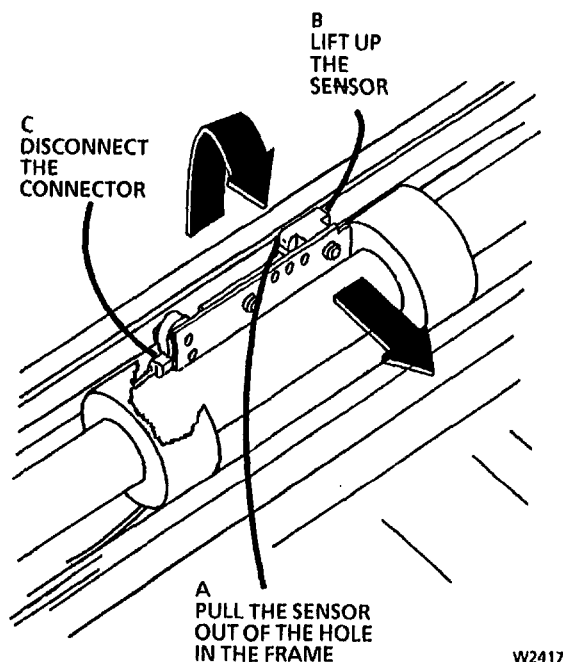

Figure 1. Removing the Illumination Sensor
3. (Figure 1): Remove the Illumination Sensor.